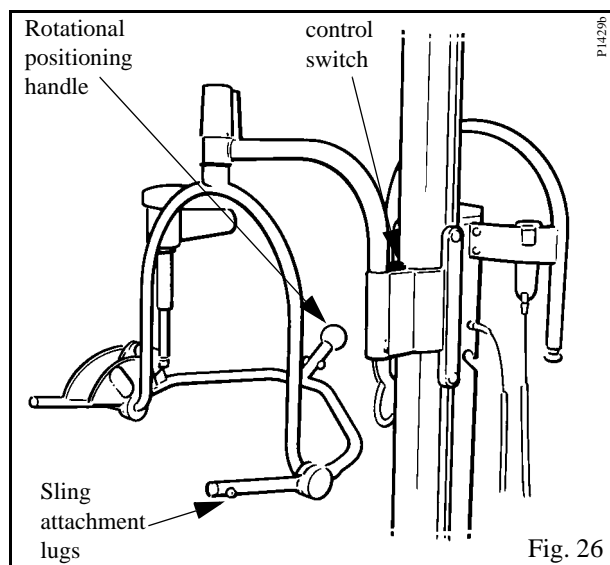

Fig. 26
## Powered Patient Positioning Spreader Bar (if fitted) (see fig. 26)
**Warning:** Before using your lifter when fitted with the P.P.P. spreader bar, familiarise yourself with the various parts as illustrated in figure 26, then read and thoroughly understand the following operating instructions.